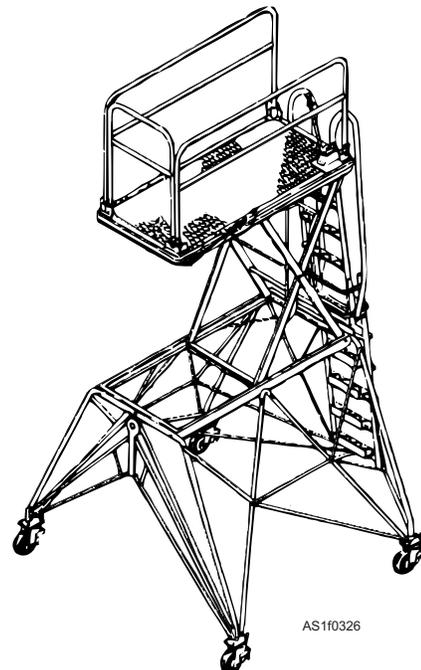

Figure 1-28.—B-5A maintenance platform.
**B-5A MAINTENANCE PLATFORM.**—The B-5A maintenance platform (fig. 1-28) is a moveable,